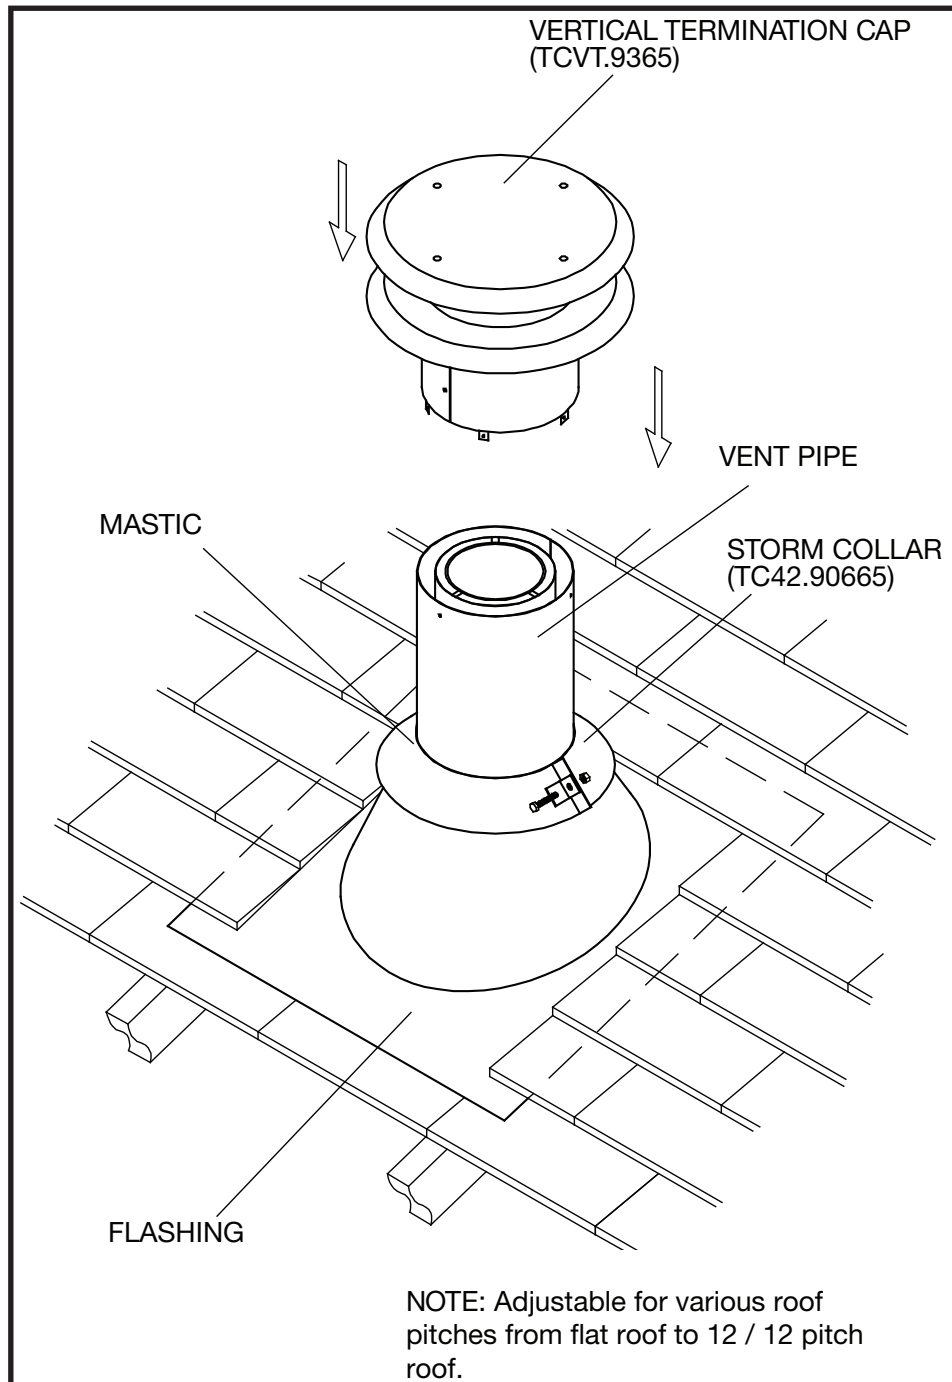

Figure 39: Roof vent terminal.
1. Place the roof flashing over the vent pipe, secure and seal it to the roof using the methods and materials appropriate for the type of roof on the building. Shingle roof example shown in Figure 39.